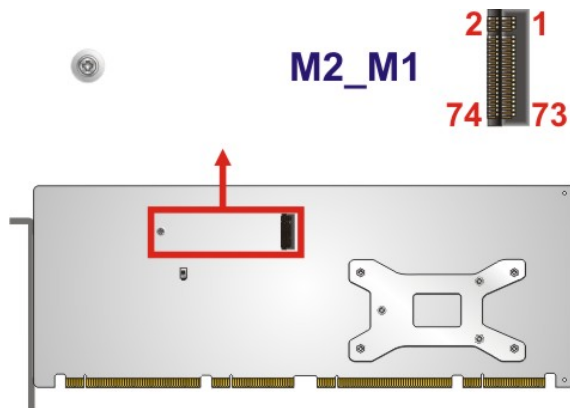

Figure 3-15: M.2 2280 Slot Location
- CN Location:** See **Figure 3-15**